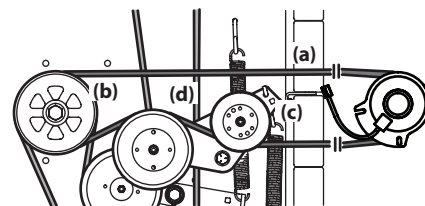

**Figure 4-21**
6. Remove the hex screws (a) flange lock nuts (b) securing the front deck control rods (c) to the deck. See Figure 4-21.